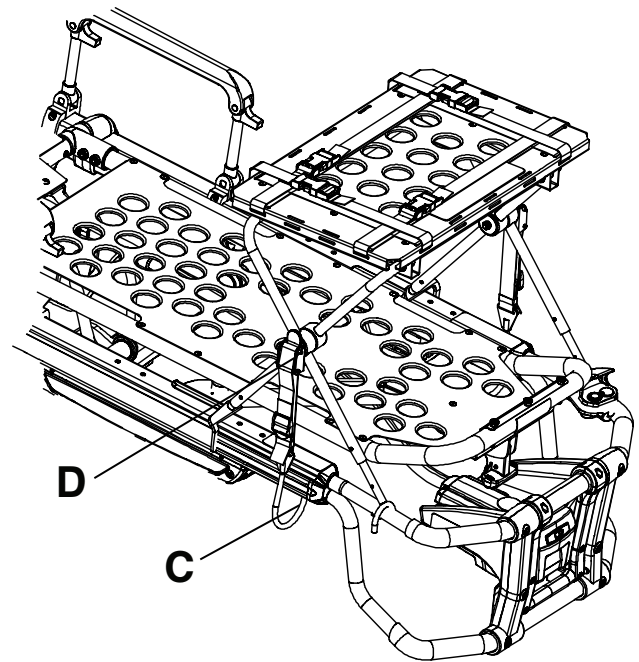
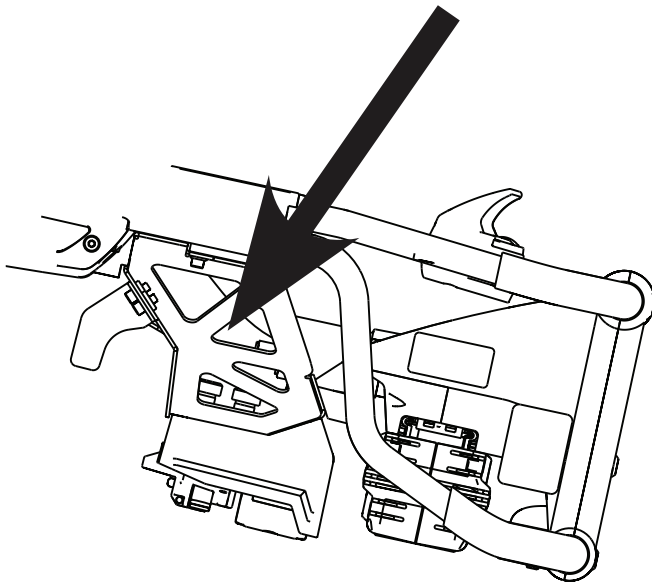

Figure 27 – Latch hook placement (Model 6506 shown)
Figure 28 – Tab (Model 6506 shown)
6. Place the latch hook (C) under the litter frame or foot end fastener and push the tab (D) up until it locks into place on one side with an audible click (Figure 27). Repeat on the other side. For **Power-LOAD** compatible cots, if equipped, you must lengthen and attach the straps to the foot end fastener (Figure 28).